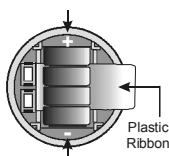

Figure 11: Battery compartment
- Remove old batteries by pulling plastic ribbon. Replace with fresh ones. Note polarity as shown in figure 11.